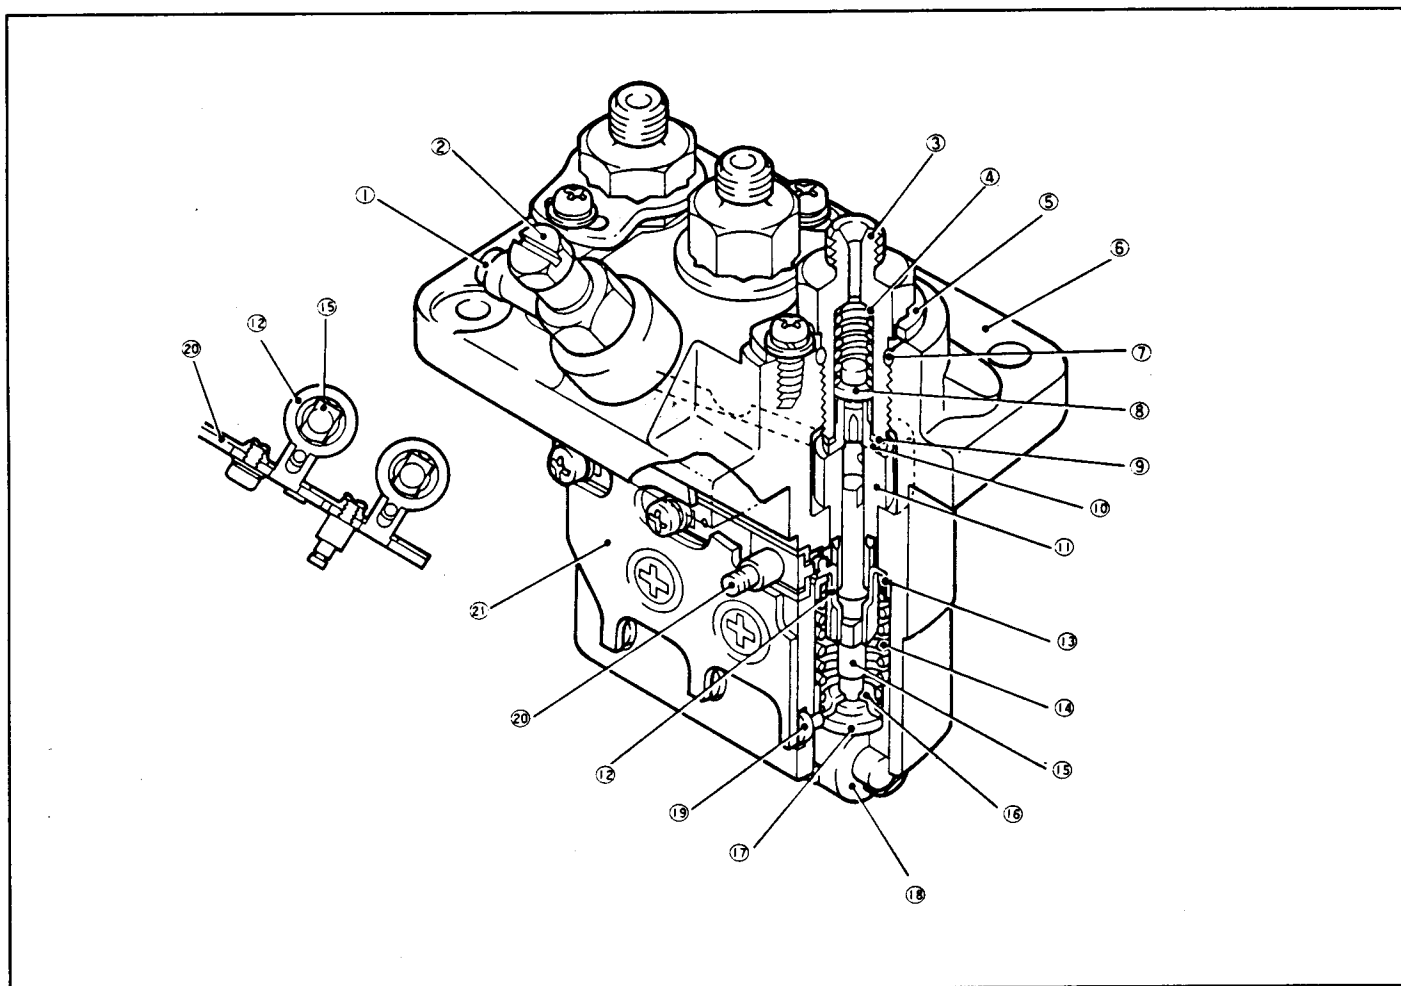

Figure 61
1. Remove the stopper holder. Remove the delivery valve holder (Fig. 61).